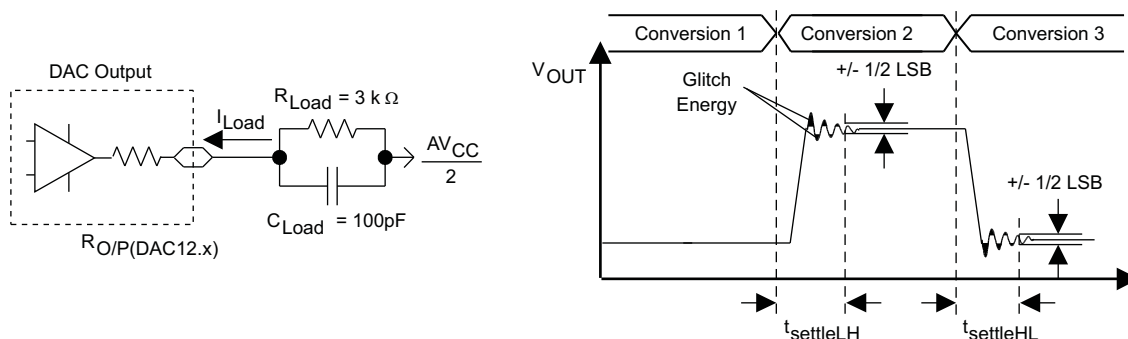
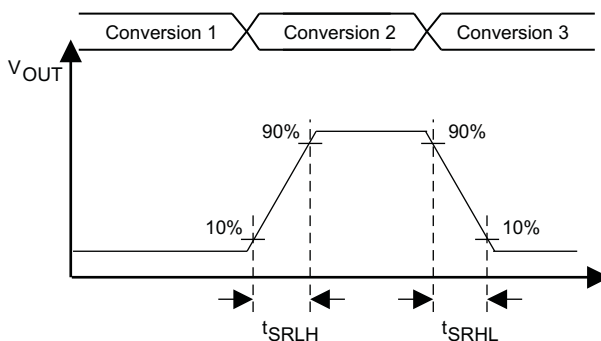

Figure 5-24. Settling Time and Glitch Energy Testing
Figure 5-25. Slew Rate Testing
$V_{ref} = V_{CC}$, DAC12IR = 1, over recommended ranges of supply voltage and operating free-air temperature (unless otherwise noted) (see Figure 5-24 and Figure 5-25)
(1) R_{Load} and C_{Load} connected to AV_{SS} (not $AV_{CC}/2$) in Figure 5-24.
(2) Slew rate applies to output voltage steps ≥ 200 mV.